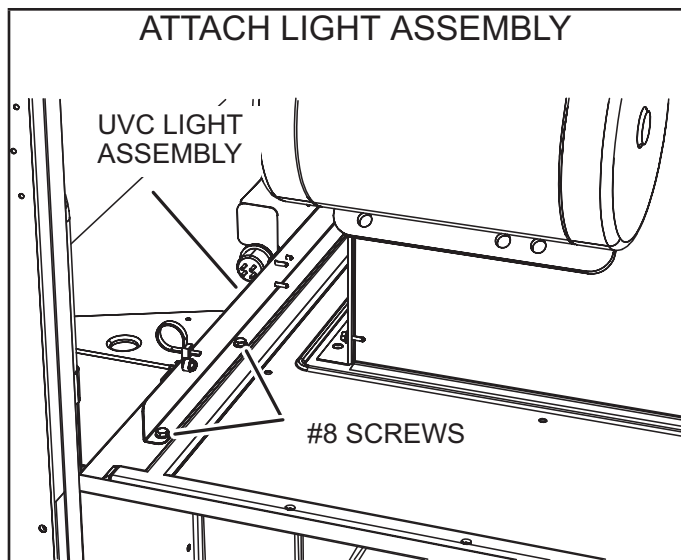

**FIGURE 41**
- 8 - Carefully place the UVC assembly on the blower deck. Line up the mounting holes on the UVC assembly with the mounting holes on the blower deck. See FIGURE 41. Use the #10 screws provided to attach the UVC assembly in place.